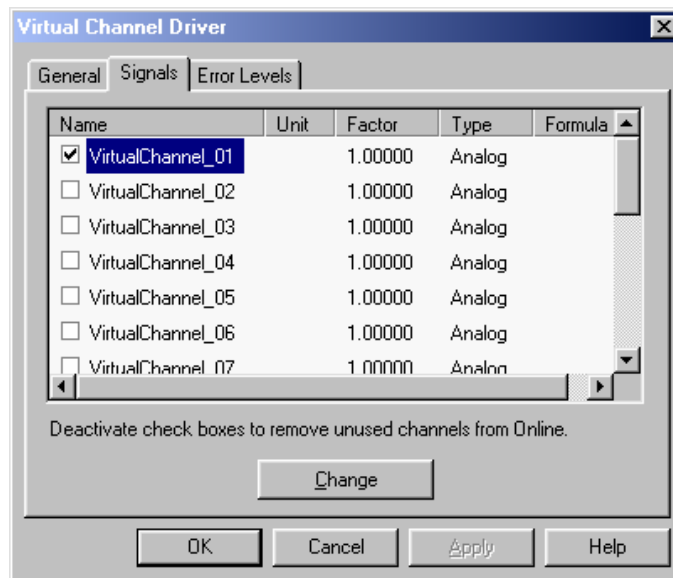

FIGURE 4-5 The Virtual Channel Driver Box
- a) Click on **Add Device** in the *Server Configuration* box and select **Virtual Channel Driver** from the **General** tab to present the *Virtual Channel Driver* box (FIGURE 4-5).
To monitor other parameters (e.g. the UltiMate Micropump pressure), select a new channel (FIGURE 4-5) and configure the signal as presented in TABLE 4-2.